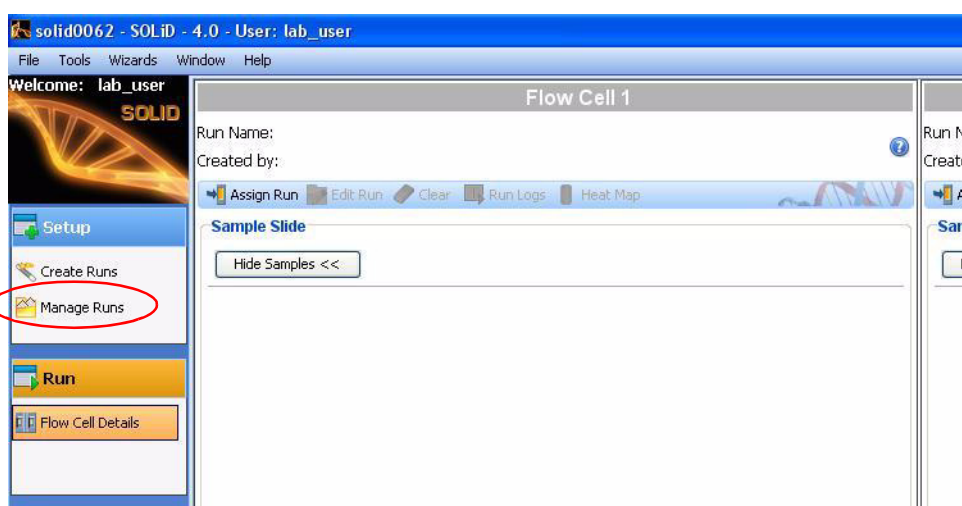

Figure 48 Manage Runs.
13. Click **Manage Runs** in the task pane on the left menu pane of the ICS (see Figure 48).